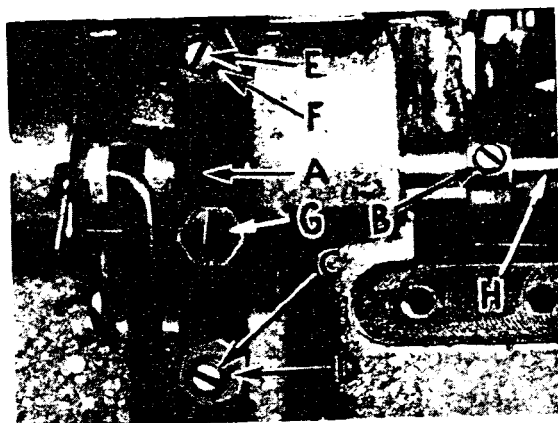

Fig. 16
Assemble the presser foot to presser arm. With needle in high position, swing presser arm into sewing position and set the presser foot to align needle holes (front and back) and flat on throat plate. The front edge of needle hole in presser foot must be aligned with front edge of needle hole in throat plate. It is also important that the bottom of the presser foot be flat on the throat plate. If necessary, presser foot can be realigned with throat plate slots by shifting the foot lifter lever shaft (H, Fig. 16). To move the shaft, loosen collar screws (B, Fig. 16) and clamp screw (G) and then shift the foot lifter lever shaft to the left or right as required. Re-tighten collar screws and clamp screw.
The foot lifter lever arm (A, Fig. 16) and the collar (B) secure the shaft. Be sure the presser arm does not bind and rise when presser foot release bushing is unlocked.